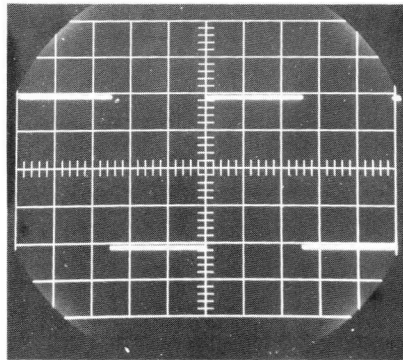

Fig. 12. Squarewave response
- Connect a 1 : 10 attenuator probe to socket YA (YB).
- Set x1-x10 of channel A (B) to position x1.
- Set V/div of channel A (B) to position 10 mV/div.
- Check the squarewave response via the measuring probe; permissible overshoot 2 % (Fig. 12).